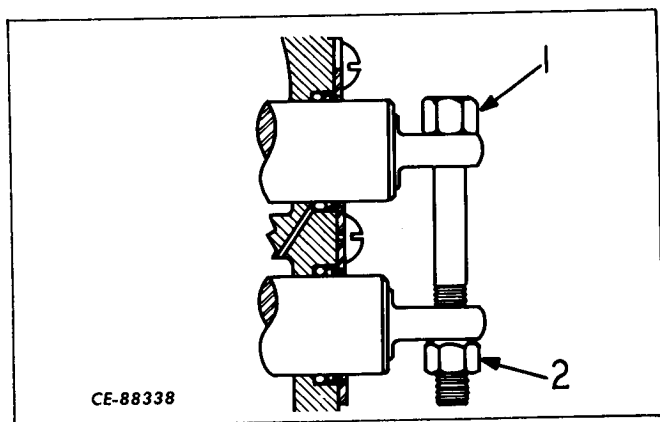

Figure 11-54
Lubricate both valve plungers with clean hydraulic fluid and install in their respective bores. Align the "eyes" in the ends of the plungers and install a 1/2" x 4NF cap screw (1, Fig. 11-54) and hex nut (2). Tighten the nut hand tight.
Remove the cap screw and hex nut from the plunger "eyes" (Fig. 11-54). Working one plunger at a time, slide (DO NOT ROLL) a new "O"-ring, spacer and split scraper over the plunger. Lubricate all parts thoroughly before installation. Using the retainer plate, with a slight rocking motion push the assembly into the seal counter bore. Install retainer plate cap screws and tighten securely.